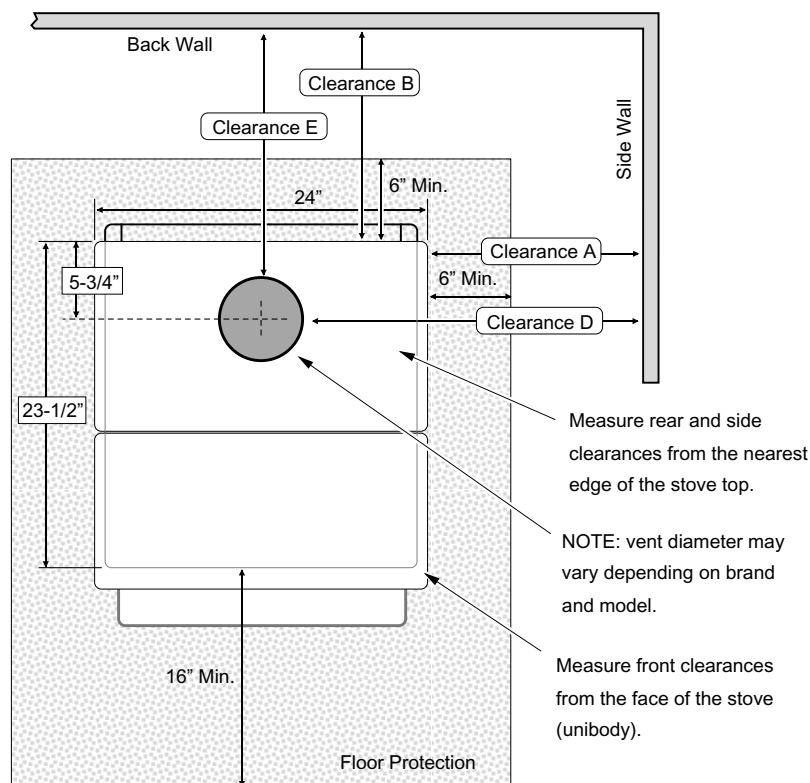
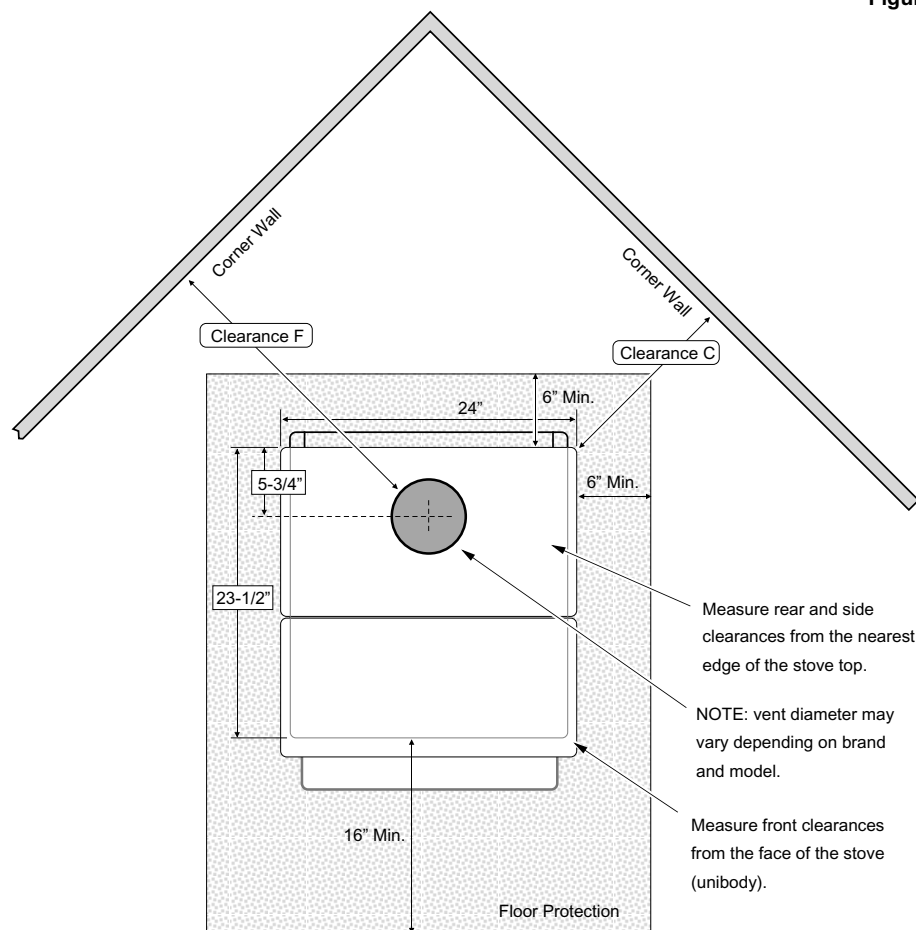

Figure 2
Figure 3
- Floor protection must extend 6" to the sides and rear of the stove and 16" to the front of the stove (36" wide by 45-1/2" deep - see Figure 2 and Figure 3). NOTE: when installed with reduced-clearance connector, the clearance to the backwall is less than 6". In this case the floor protection must extend to the wall.
- The following clearances must be met (see Figure 2 and Figure 3)